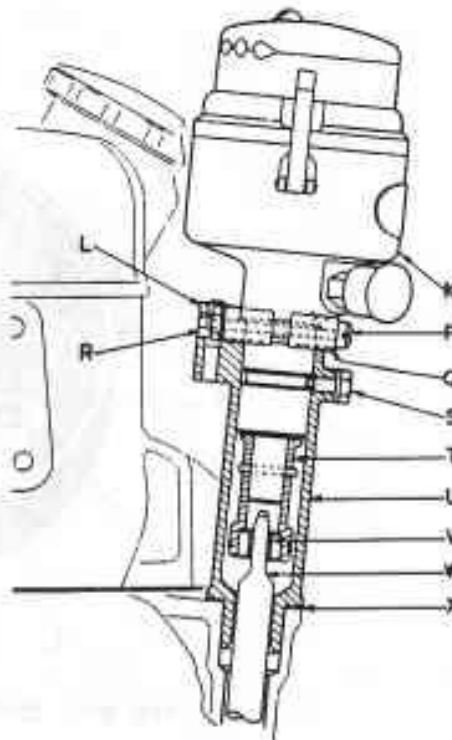

FIG. M13. DISTRIBUTOR.
DO NOT slacken the clamping plate screw, (P, Fig. M13), as the clamping plate should be left in position; i.e., clamped to the distributor so as not to disturb timing.
4. Slacken screw "P" (Fig. M13), and rotate distributor head clockwise until bulb goes out, if not already so, then rotate anti-clockwise until it lights. Re-tighten screw "P", turn back rear wheel and check.